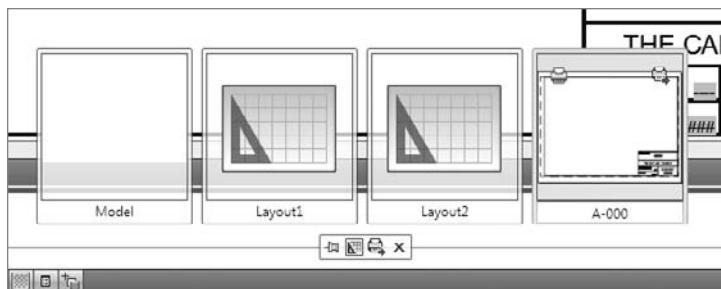

FIGURE 14.28 Renaming a layout tab to match the sheet number
Select the Quick View Layouts button in the status bar to display thumbnails of the layout tabs in your drawing (Figure 14.28). Right-click on the DWFX-8H11 layout tab, and choose Rename from the contextual menu that displays.
6. Enter A-000 as the new name for the layout tab and then press ↵ (see Figure 14.28).